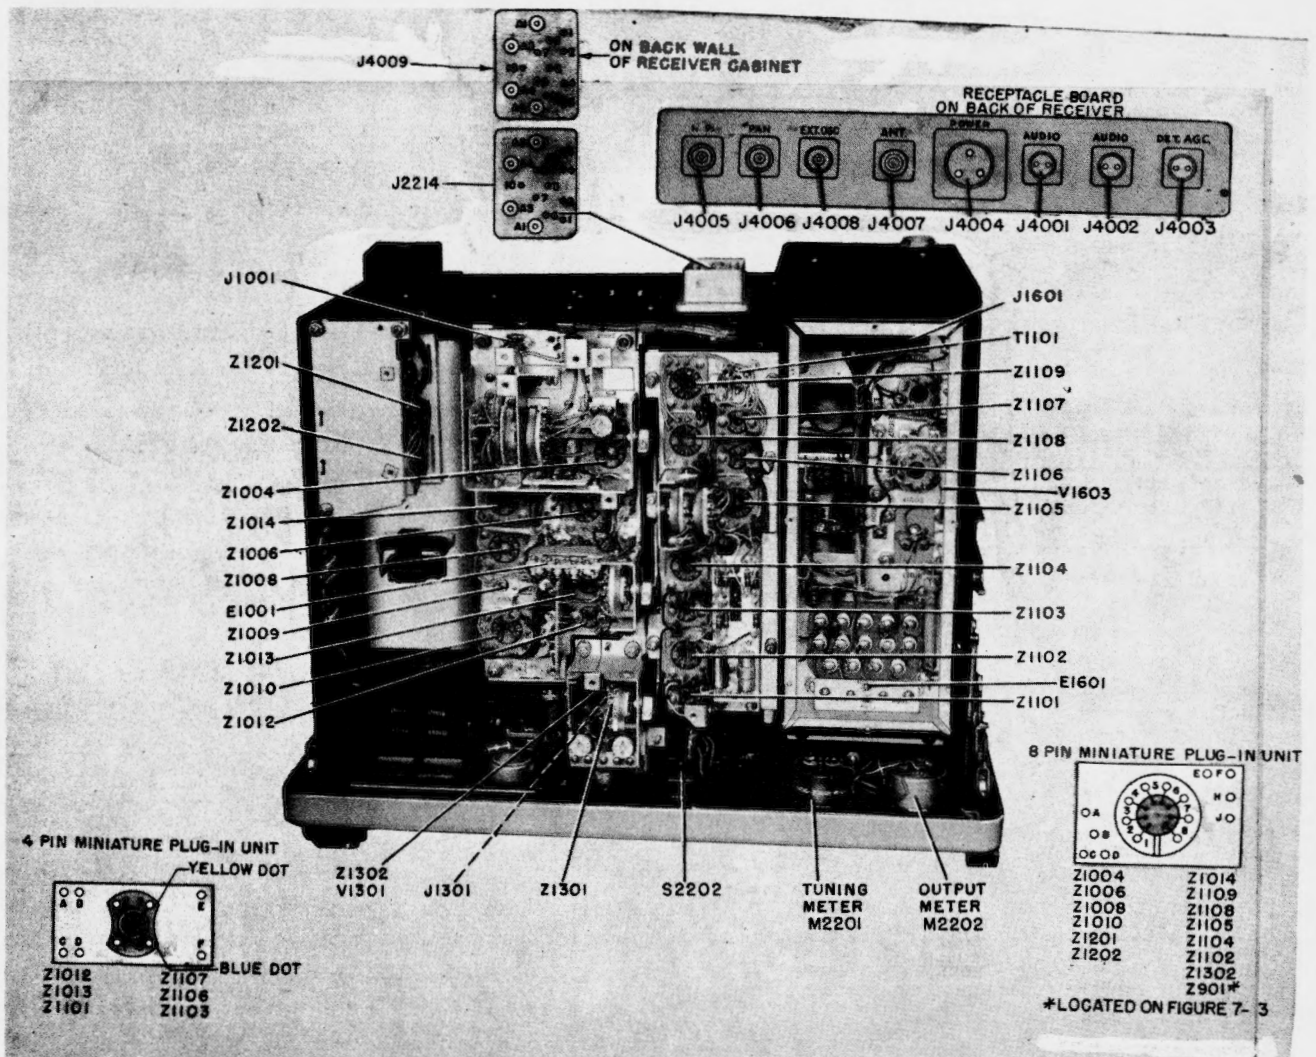

Figure 7-2. Receiver Stage Gain and Trouble Shooting Measurement Points, Top View
(4) SILENCER CONTROL. - Check the receiver SILENCER control. This control is active only on the A3 positions of the receiver RECEPTION control. To check its operation, turn the control fully counterclockwise and tune in an A3 signal; then turn the SILENCER control clockwise and note whether background noises are eliminated or not. If they are, the control is functioning properly; proceed to step (5) which follows. If the control is not operating properly, check the noise peak limiter diode (V1101) and its associated circuit, the SILENCER control (R2206) and its wiring, and the portion of switch S1101A associated with the SILENCER control.
(5) GAIN CONTROL. - Check the GAIN control. This control is active on the A1 positions of the receiver RECEPTION control at all times. It is active on the A3 and FSK positions of the RECEPTION control only when the AGC switch is in the OFF position. When operating properly (under conditions stated) the GAIN control should vary the signal output as indicated by the TUNING meter, the OUTPUT meter, and phones. If signal output is varied, as described above, by operation of this control, proceed to step (6) which follows. If the GAIN control does not vary the output level to any degree, then trouble is probably in the immediate circuits of the control (R2201) itself. Check resistance and continuity of the A and B sections of this control and its interconnections until the fault is found. Refer to the receiver schematic diagram, figure 7-30, and to figures 7-2 and 7-3 for location of the interconnections.
The 95-volt regulated B+ supplies plate voltage to the oscillator. A changed value of this voltage could cause misalignment of this oscillator. Check the regulated B+ voltage between J4403F and ground. If it does not measure 95 volts dc, replace regulator tube V1603 in the receiver power supply. If this fails to give the required 95 volts at the above mentioned receptacle, check the voltage at all the connector pins through which the regulated B+ passes until the fault is found. Refer to figure 7-30 for the receiver schematic diagram and figures 7-2 and 7-3 for location of the associated connectors.